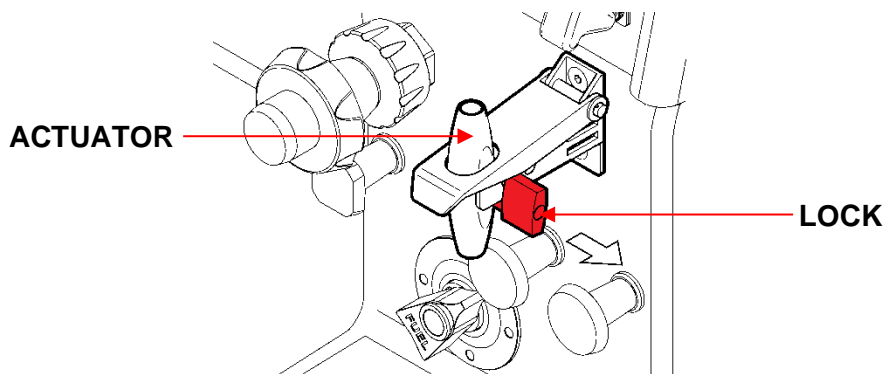

Fig. 1
1. Lock the rescue system actuator (Fig. 1)!